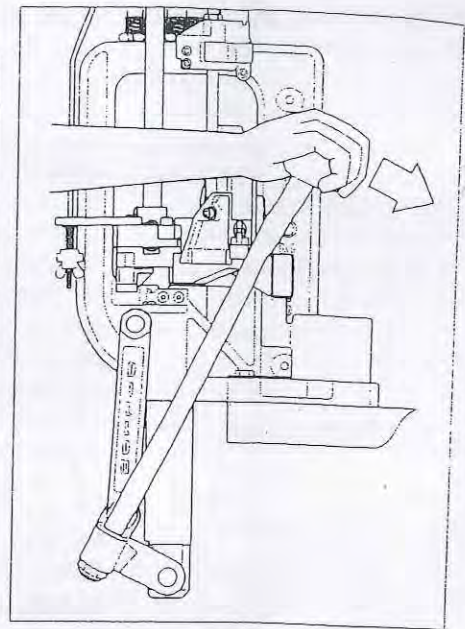

**Fig. 4**
1. Fig. 4. Using a 5/32" Allen wrench, remove the old index cam and install the new index cam.
1. Fig. 4. Loosen the two index block screws.